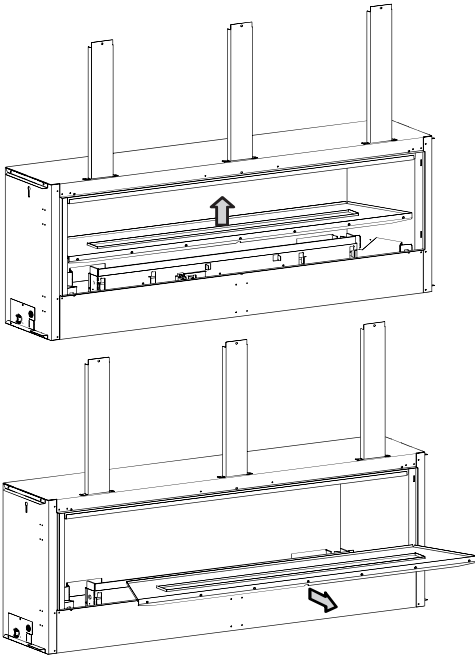

Figure 3
- Remove the burner cover by lifting it up and out. See Figure 3.
- Reinstall the burner cover removed in Step 3. See Figure 3.